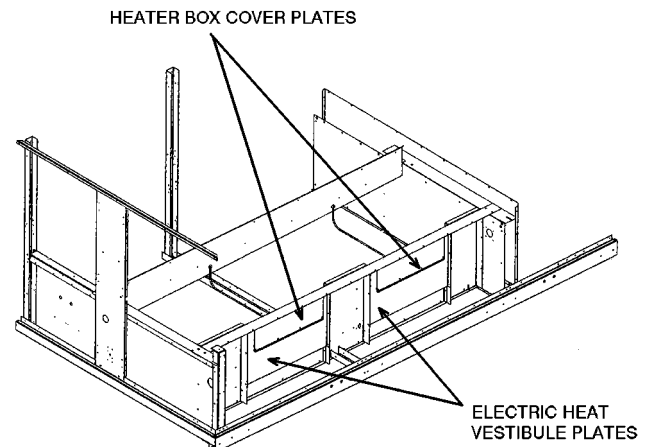

Fig. 2 — Heat Section With Access Panels Removed
3. Remove the 2 (20-45 ton units) or 3 (50-65 ton units) heater box cover plates from the base unit's electric heat vestibule plates (Fig. 2). Cut the insulation that covers the opening in the vestibule plates. Save the screws.